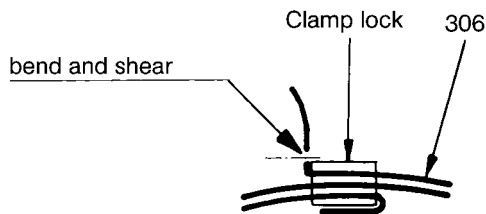

Fig. 12: Bending and shearing of the clamping band
- When using the clamping tool PoK-It II bent the clamping band (306) at the clamp lock after tightening by turning the clamping tool upwards, in order to prevent that the clamping band slides back through the clamp lock. After bending at the clamp lock the clamping band must be cut by sheet metal shears and the edges deburred (see Fig. 12).
**ATTENTION** Check whether the clamping band is sufficiently bent to prevent sliding back through the clamp lock (see Fig. 12). If this is not the case remove the clamping band and replace by a new one.
- Before installation of the stator lubricate stator (402) and/or rotor (401) with sliding agent (silicon oil, Polydiol, soft soap or similar).
- Slide the stator (402) over the rotor (401).
**Note:** If difficulty is experienced rotate the stator (402) at the same time by means of a chain wrench. In order to do so, secure the hollow shaft (125)
- Bolt together discharge casing (504), stator (402) and suction casing (505) by means of the tie rods (611) and hexagon nuts (609). In doing so, uniformly tighten all hexagon head bolts.